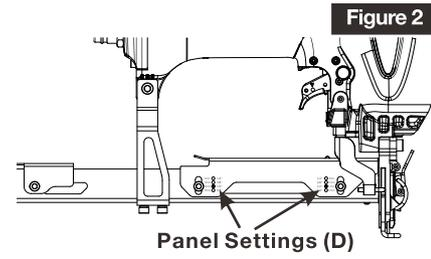

Figure 2
- Adjust the Magazine Panel (A) to the correct Panel Setting (D) according to the nail length. (See Figure 2).